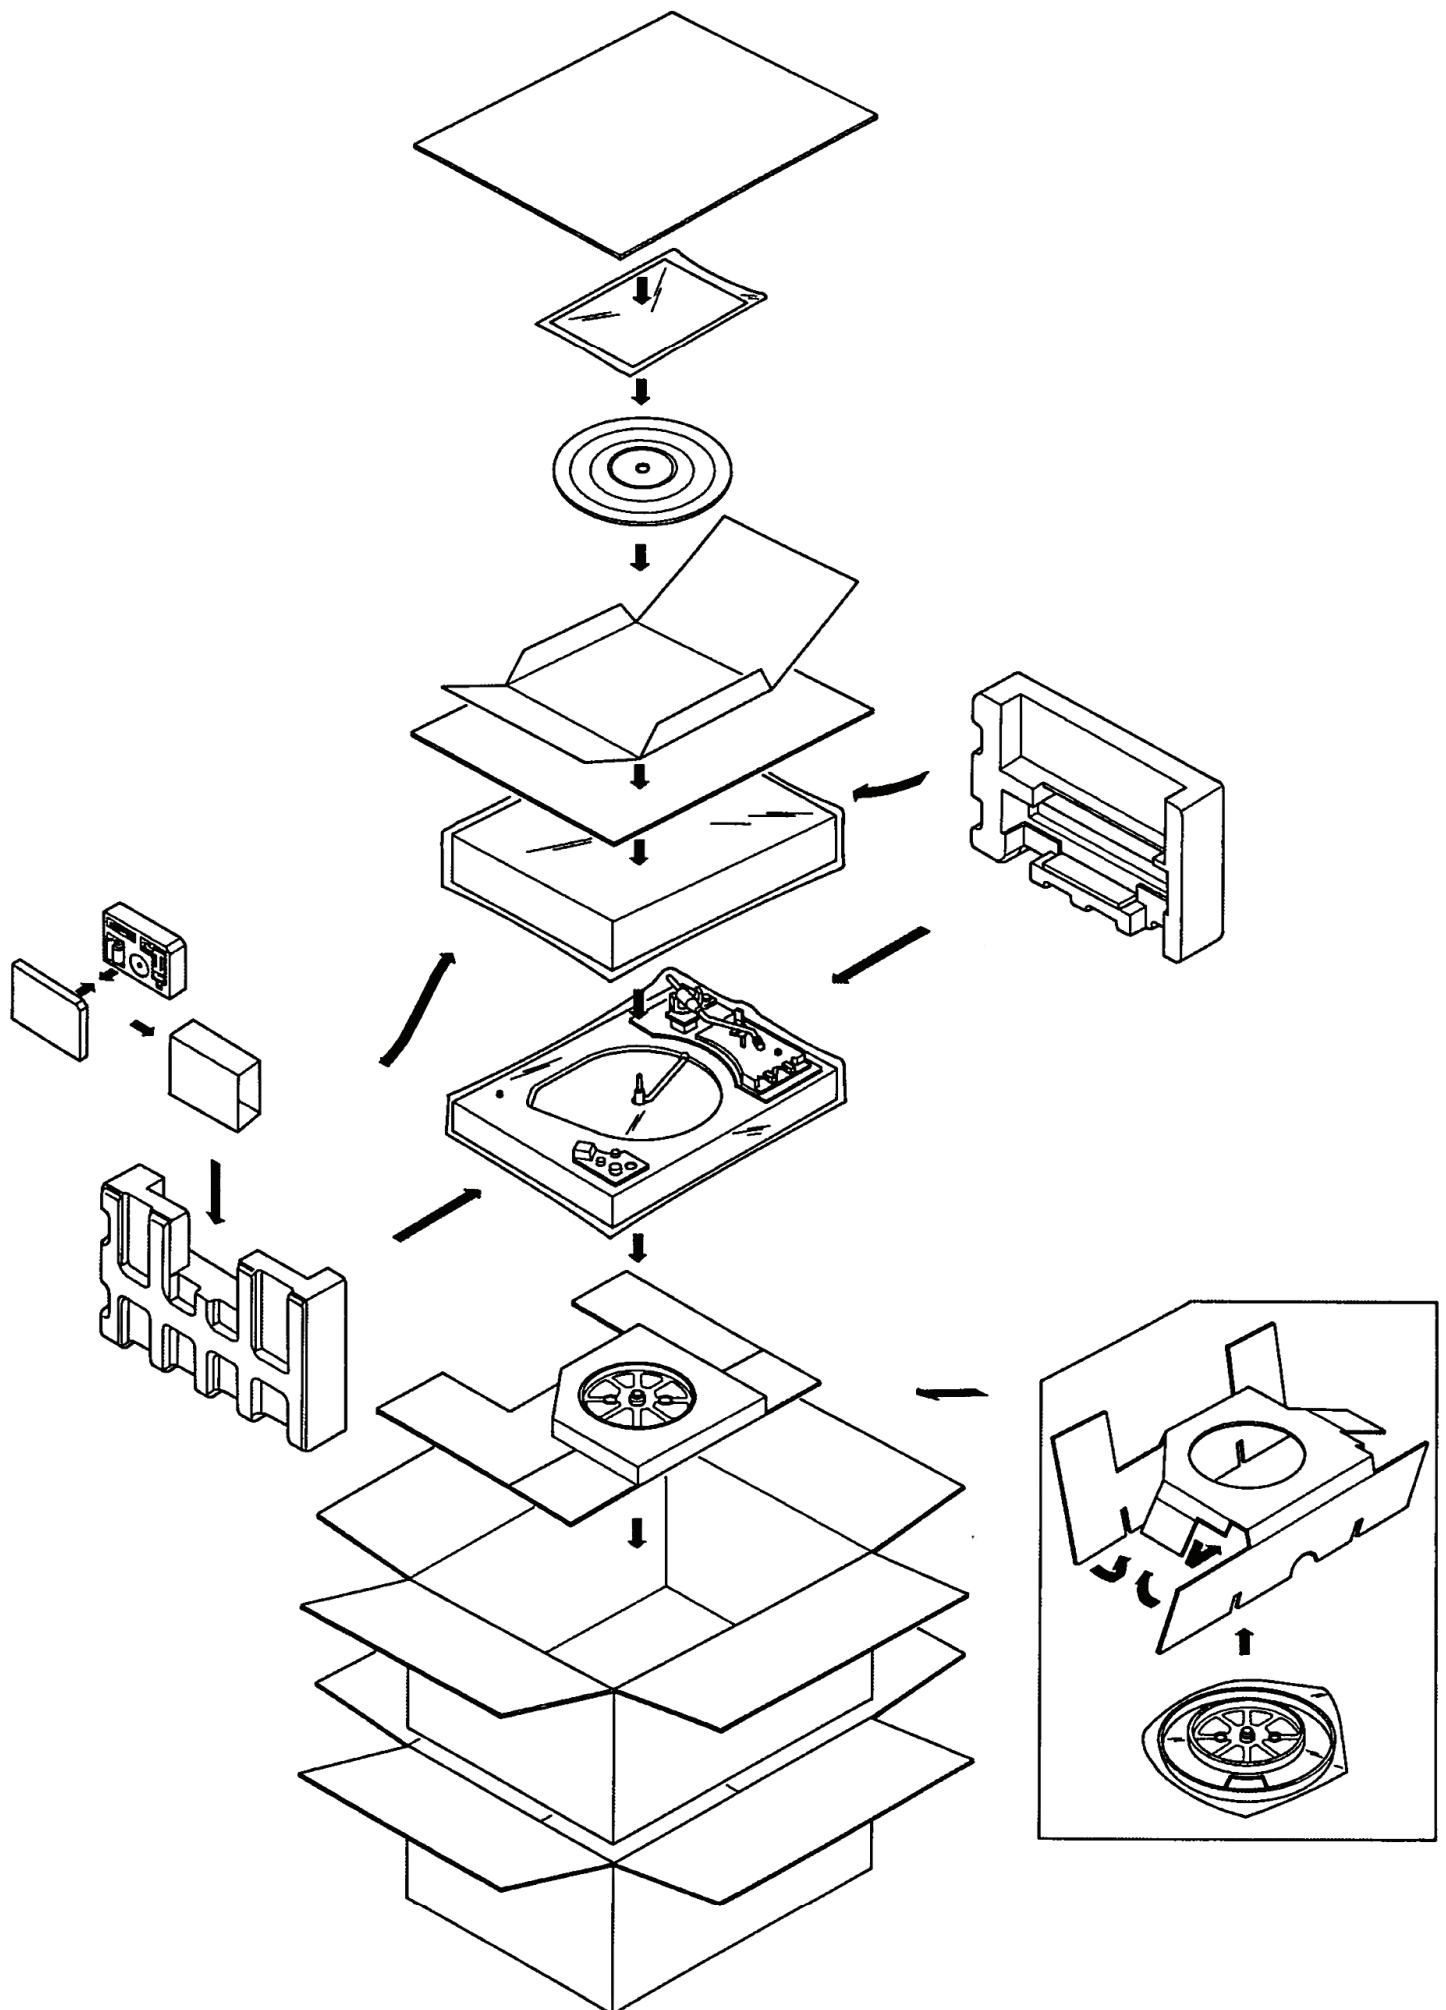

Figure 5. Packing Instructions
- b. Pack the unit carefully, using the original material as shown in Figure 5. PLEASE NOTE that if you have discarded, lost, or damaged the packing material, new packing material may be obtained by writing to the Marantz Technical Services Department. The carton, its fillers, and packing instructions will be returned to you at a nominal charge.